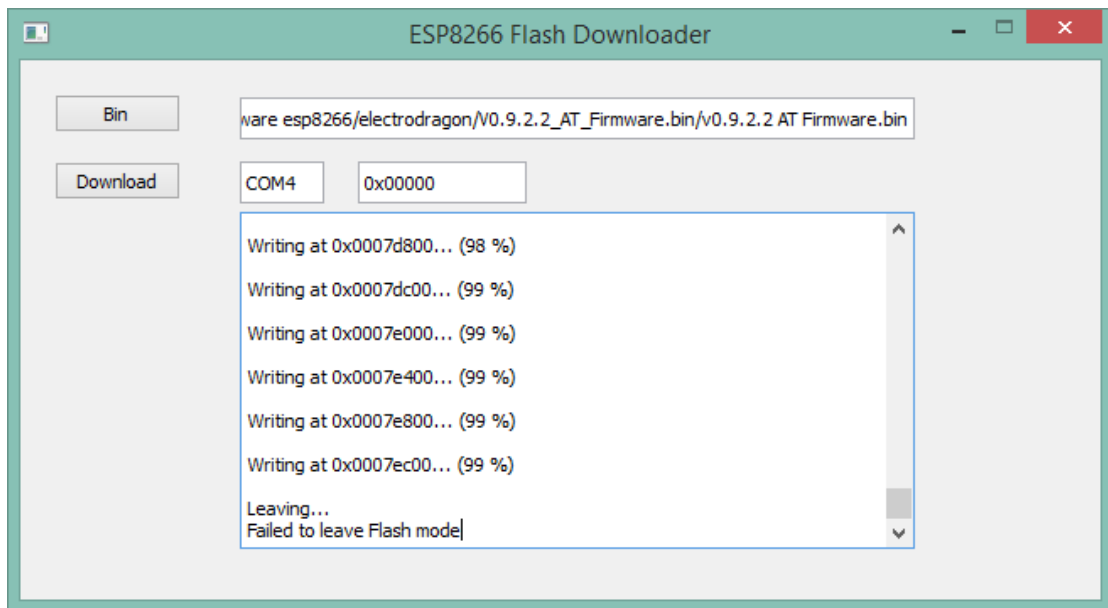

Figure 21. ESP8266 module is successfully upgraded firmware
6. If the ESP8266 module is successfully upgraded firmware. It will appear as figure 21.